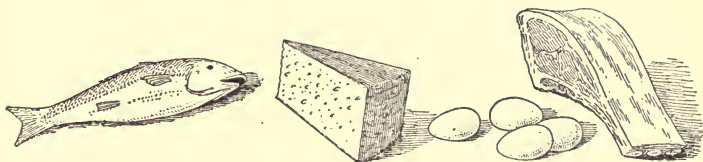

FIG. 21. — Protein foods.
**Sources of proteins.** Protein is an important constituent of meats, fish, beans, peas, cereals, and nuts. (See figure 21.)